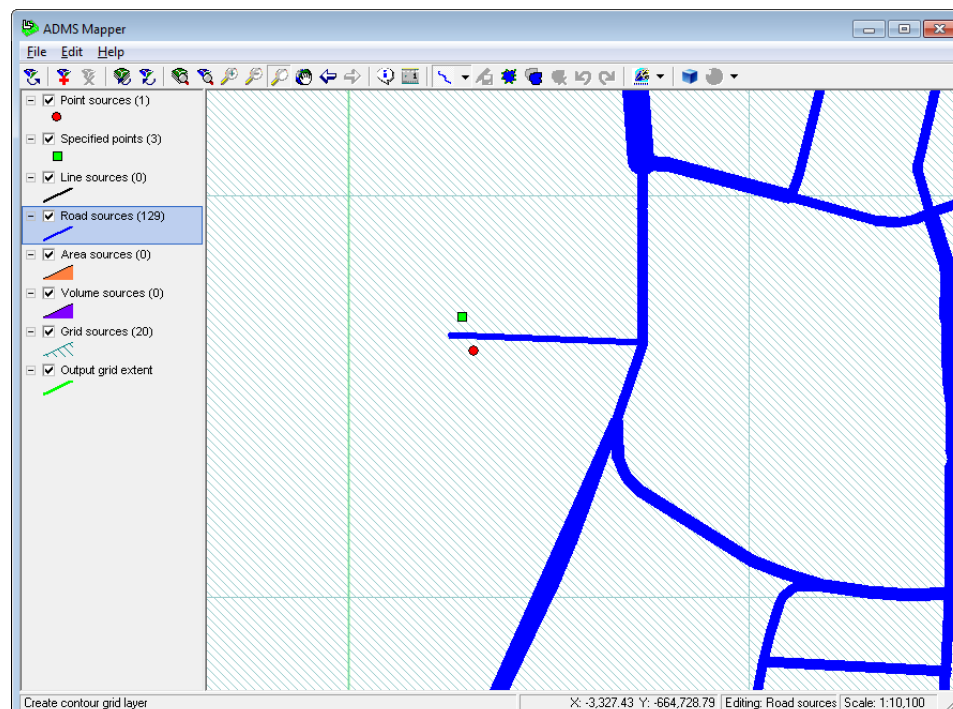

Figure 7.26 The newly defined road.
Step 16 Click on the location for the first road vertex at the point where the existing road bends, to the east of the Monastery receptor. The proposed route for the new road starts at the existing road and ends just past the new boiler, with the road passing between the Boiler and the Monastery, as shown in **Figure 7.26**. Double click at the final vertex to complete the road.